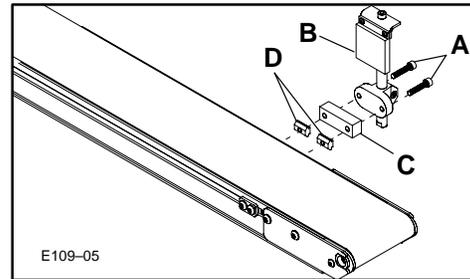

Figure 5: Reflector Attachment Detail
- c. Insert two (2) Single Drop-in T-bars into the T-slot on other side of the conveyor.
- d. Refer to Figure 5 and attach Reflector with Mounting Bracket and Spacer to the Drop-in T-bars using the two M6 x 30 mm Socket Head Cap Screws. Tighten Screws with 5 mm Hex Key Wrench provided.